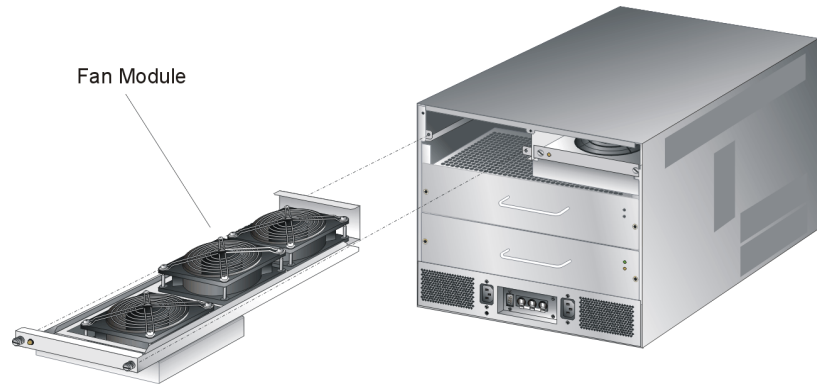

Figure 5-12 Fan Module Removal and Replacement
5. Two captive screws secure the fan module to the director chassis (Figure 5-12). Using a standard flat-tip screwdriver, loosen the captive screws.
3. Position the fan module at the rear of the director chassis (Figure 5-12). Using the rear of the fan module as a handle, push the module toward the backplane to engage the connector pins. Support the fan module with one hand.